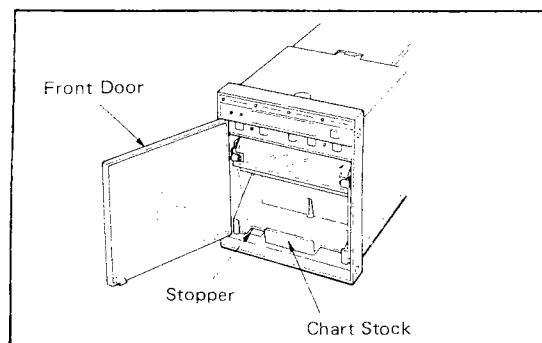

Figure 5-6. Pulling Out the Chart Stock.
- (3) Open the front door (see Figure 5-6) press down the stopper and pull the chart stock (tray) out of the internal unit.